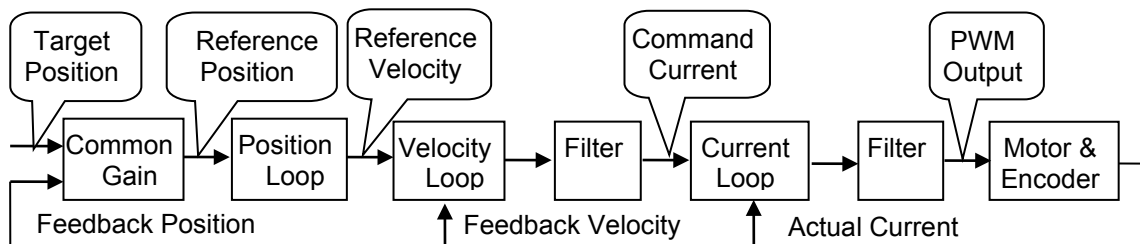

Figure3.5.1
(1) Servo loops
There are three types of control loop for D2 drive: current, velocity, and position control loops to implement the servo motor control. The architecture of drive's servo loop is described in figure 3.5.1. In the position mode, three loops should be connected in sequence to perform the position control for the motor. In the velocity mode, the velocity loop should use the current loop to drive the motor. However, in the current mode, the current loop only controls the phase commutation mechanism of motor, and its command is controlled by the voltage command from the host controller. To simplify gain parameters of servo loops, D2 drive only uses one common gain (CG) to set and adjust the overall control-loop architecture.